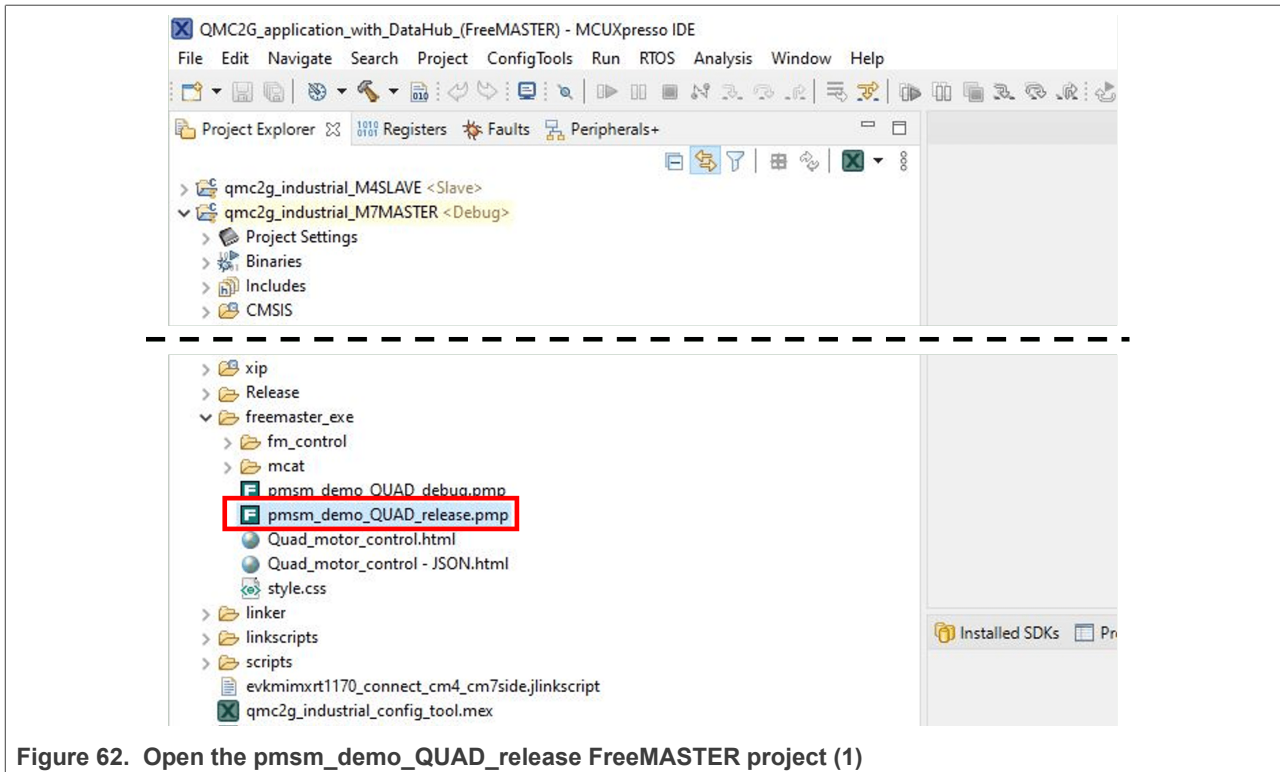
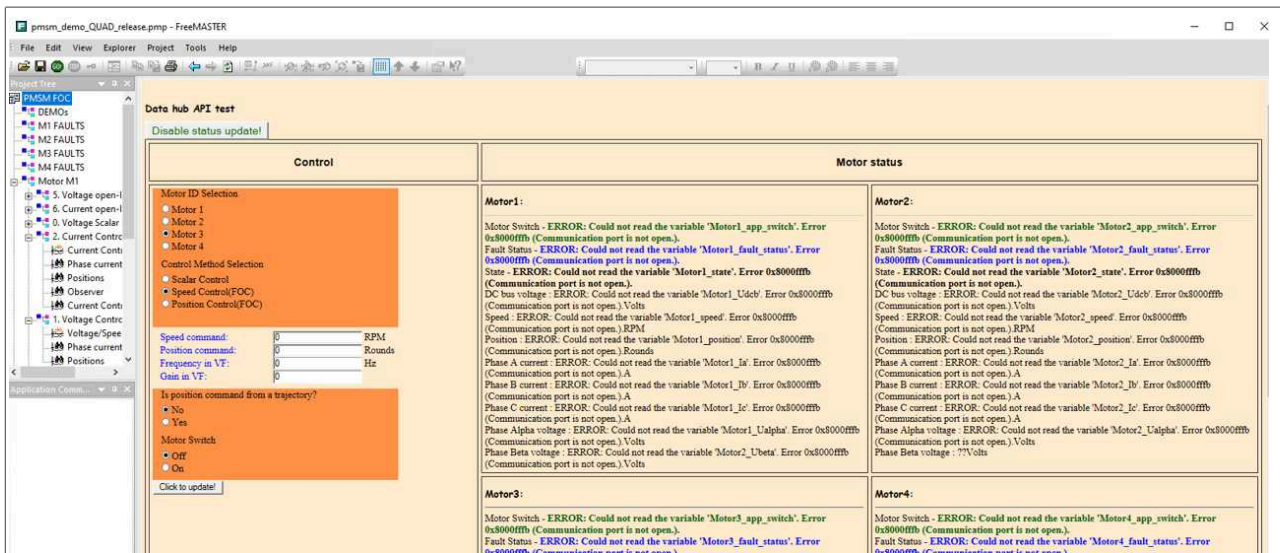

Figure 62. Open the pmsm\_demo\_QUAD\_release FreeMASTER project (1)
Figure 63. Open the pmsm\_demo\_QUAD\_release FreeMASTER project
1. In MCUXpresso, double-click the `pmsm_demo_QUAD_release.pmp` file located in the `freemaster_exe` folder of the `isi_qmc_dgc_industrial_app_master_cm7` project, as shown in Figure 62. FreeMASTER should open and display the interface shown in Figure 63.